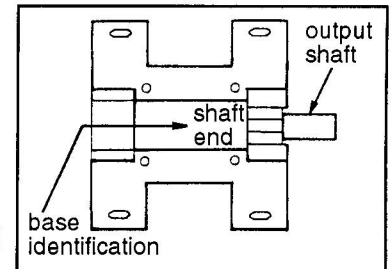

Figure 2
2. Position base against flat surface of Super-Mod housing with the shaft end identification toward the output shaft as shown in Figure 2.